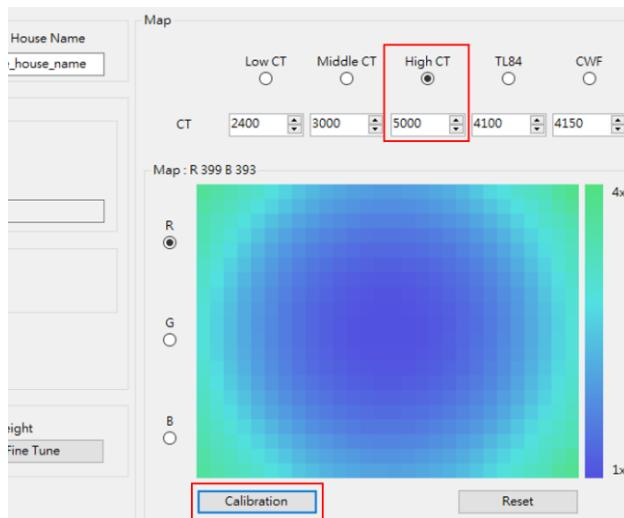

Fig 4.12 Calibrate CT shading table. By fill in the CT value and load the relative raw image from calibration button.
**Step 2.** Refer to Fig 4.12, input the CT value in Map page and click the calibration button to load the relative raw image to calibrate basic shading table and repeat Step2 to calibrate all CT images from Step1. Be aware that there will be an error message when input image does not meet the criteria.